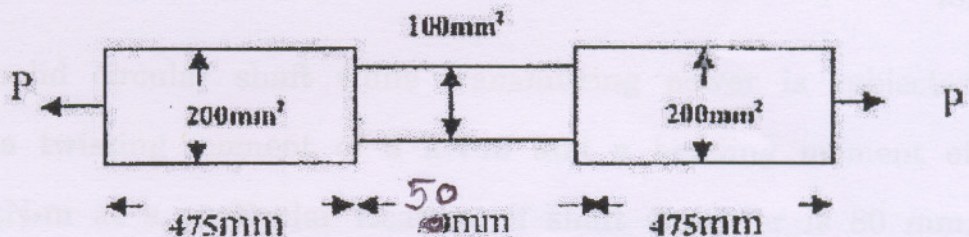

Fig. 6
- (b) The maximum stress produced by a pull in a bar of length 1 m is  $150 \text{ N/mm}^2$ . The areas of cross-section and lengths are as shown in Fig. 6. Calculate the strain energy stored in the bar if  $E = 2 \times 10^5 \text{ N/mm}^2$ . [9]